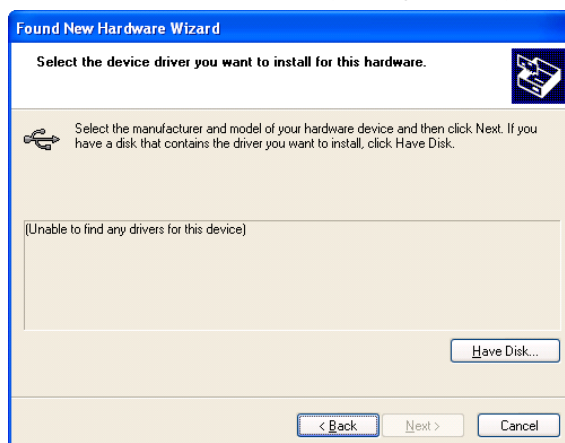

Figure 5.13
7. Click **Have Disk...** button (see Figure 5.13).